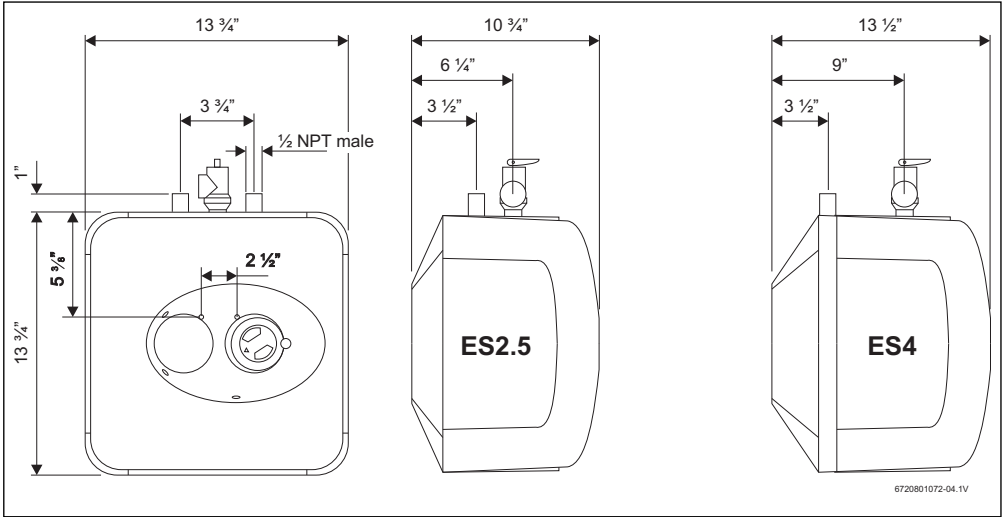
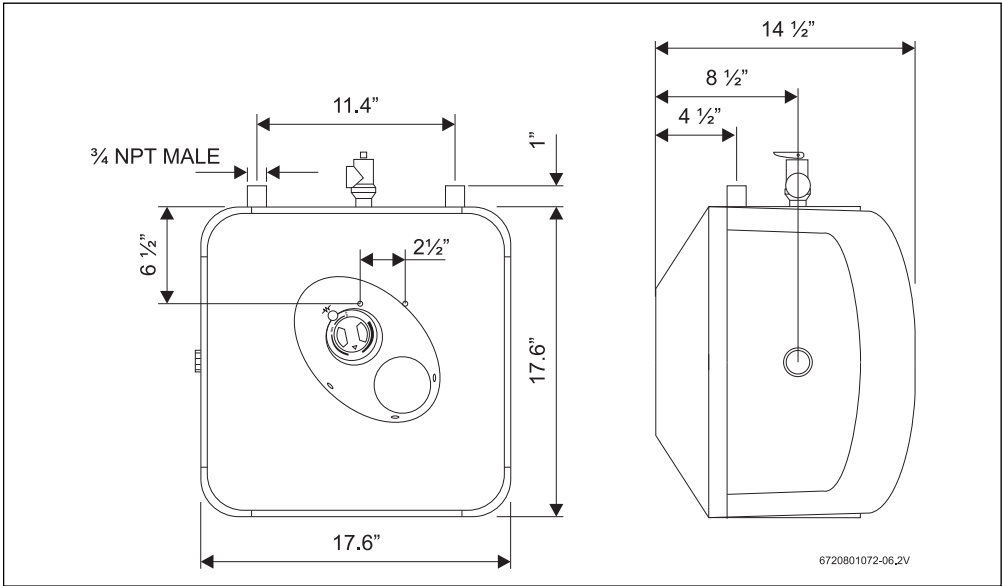

Fig. 4
Fig. 5
- The supplied Temperature and Pressure Relief Valve will need to be installed on top. See location of T&P relief valve in → Fig. 4 and → Fig. 5.